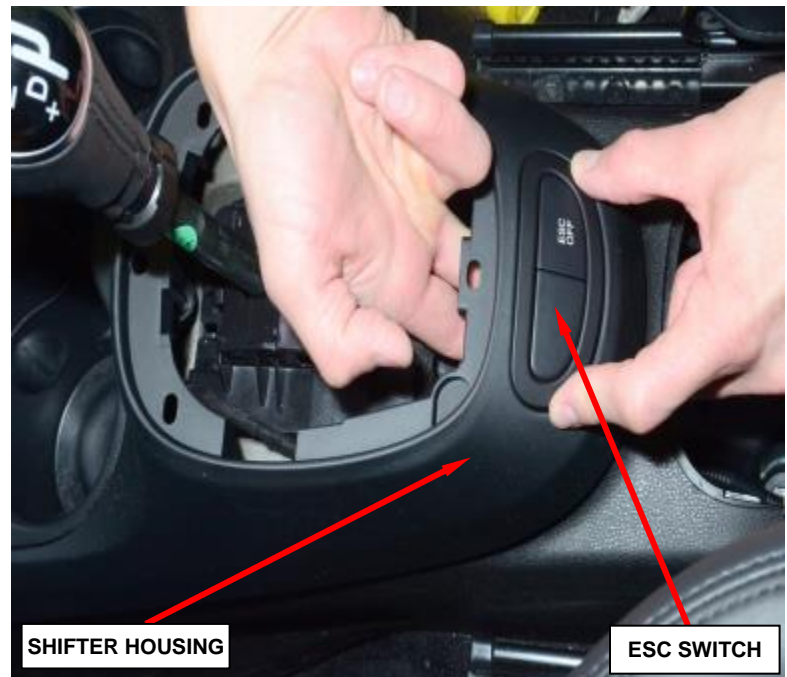

Figure 3 – ESC Switch
- g. Reach into the rear area of the shifter housing and press the retaining tabs on the back of the Electronic Stability Control (ESC) switch. Then push up releasing the switch (Figure 3).